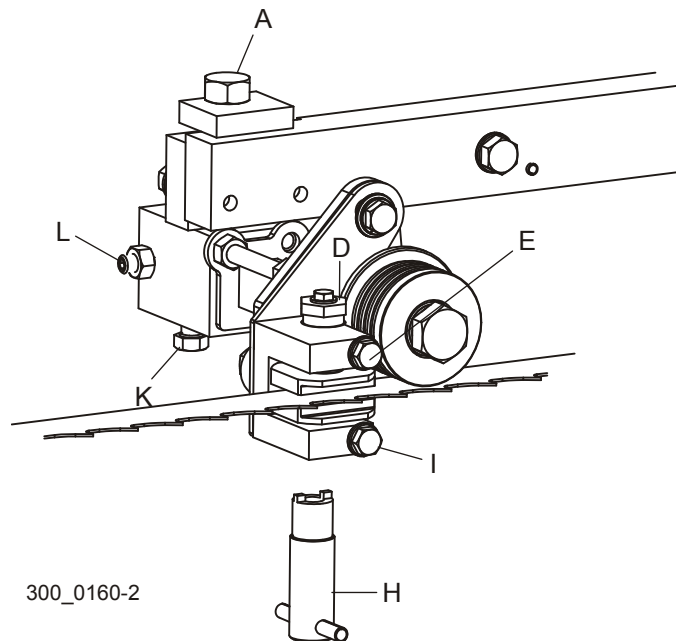

FIG. 3-18
See Figure 3-18. Standard Roller/Block Guides: Loosen clamp bolt (E) and turn the top guide block bolt (D) counterclockwise to raise the top guide block off the blade. Turn blade guide assembly bolt (A) clockwise to move the guide roller up off the blade. Loosen clamp bolt (I) and use tool (H) to turn the bottom guide block adjustment screw counterclockwise to lower block away from blade. Loosen screws (K) and (L) and move the guide assembly back away from blade.